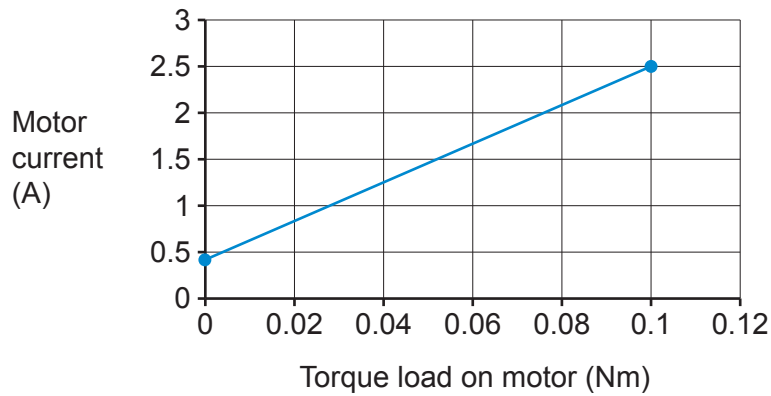

Fig. 1.3
Fig. 1.3 is a graph of the results.
- (i) Use **Fig. 1.3** to identify the current of the motor when the load on the motor is 0.04 Nm.